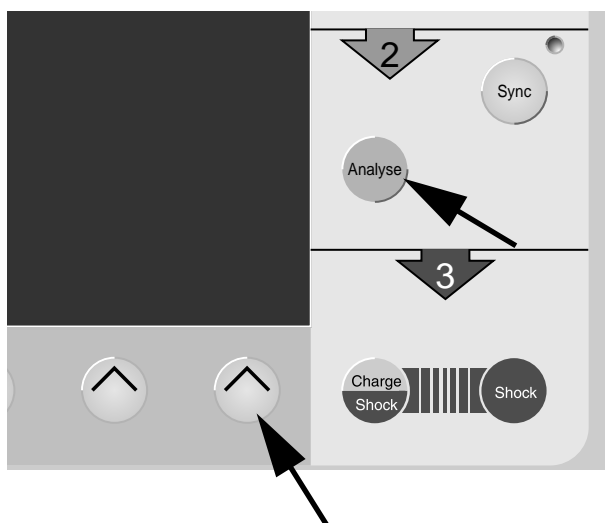

Figure 3-9. Buttons to activate the manual mode
- To activate the manual mode, simultaneously press **F5** and **Analyse** (Figure 3-9).